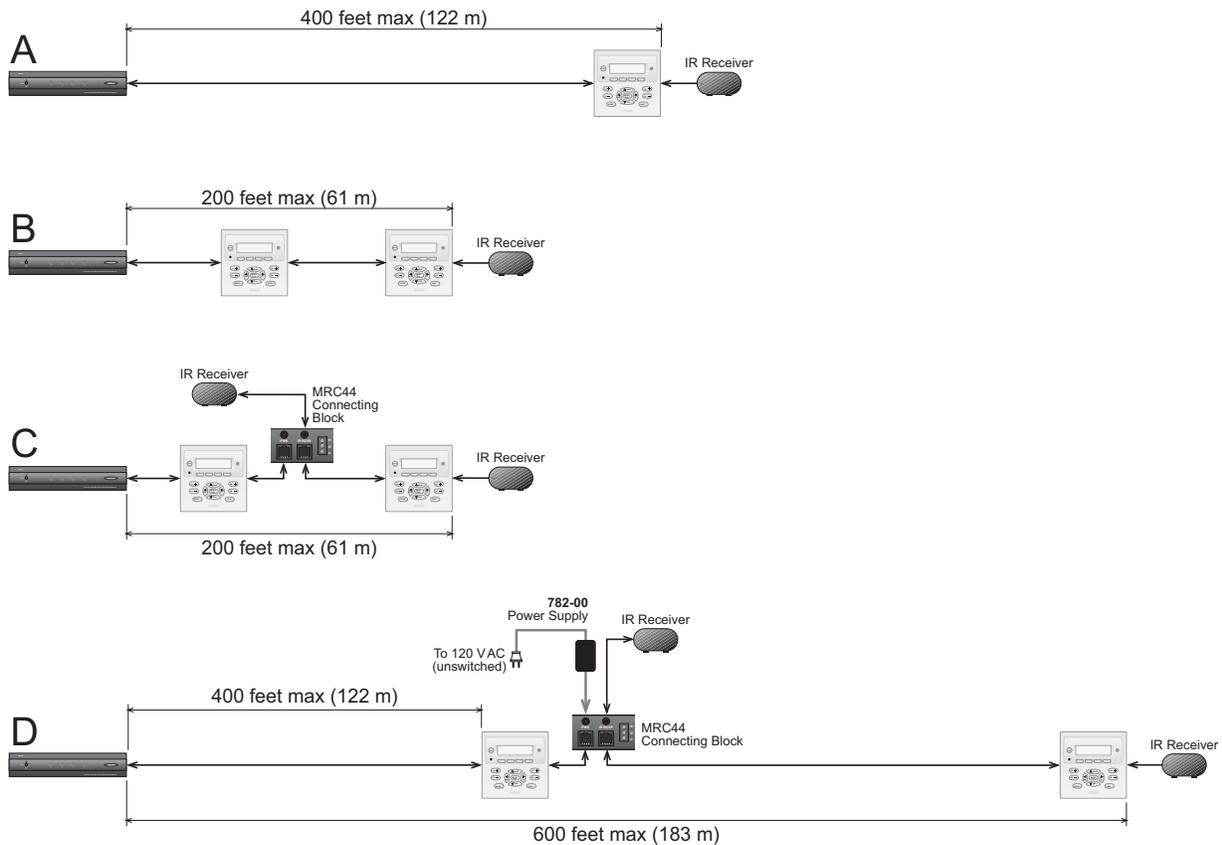

Figure 11 – MRC44 Keypad CAT5 Cable Lengths
3. When adding an IR receiver in the zone, set the jumpers according to the above table and connect the cables as shown in **Figure 11**.
The maximum cable length for CAT5 connections to a single keypad is 400 feet (see **Figure 11-A**). For two keypads in a zone, the distance to the last keypad is 200 feet (see **Figure 11-B**).
If both keypads in the zone are using an external IR receiver, the MRC44 Connecting Block (see **Figure 12**) is used to expand the connections on the back of the primary keypad as shown in **Figure 11-C**.
If your installation requires cabling beyond these limits you can use the MRC44 Connecting Block to power the keypads from a separate run of +12VDC as shown in **Figure 11-D**. The +12VDC can also be generated in the zone from a model 782 power supply or from a source at the Controller/Amplifier location (run an 18 gauge speaker wire to the MRC44 Connecting Block to minimize line loss. This method will extend the distance to the last keypad in the zone to a maximum of 600 feet.